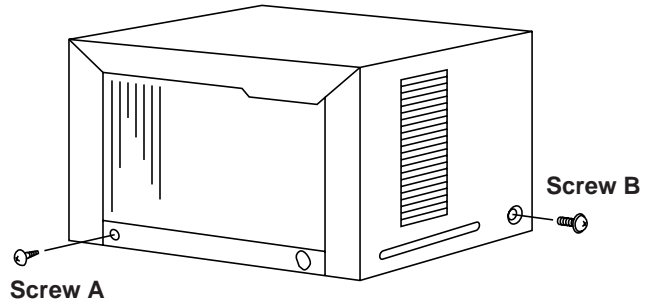

Fig. 5
- (1) Remove screws A and B. (Fig. 5)
- (2) Remove the front grille.